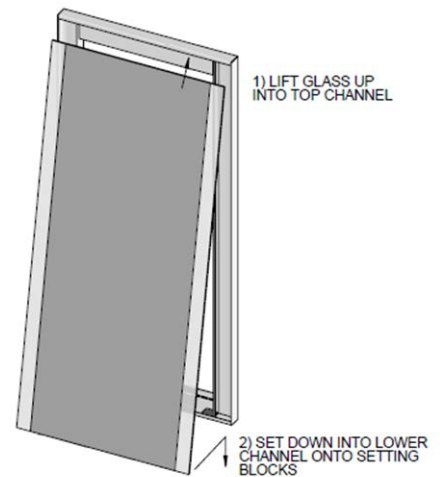

Figure 9
6. Using vacuum glass cups, install the mirror by lifting it up into the top channel, then down into the lower channel and onto the setting blocks. **See Figure 9**
See Figure 9